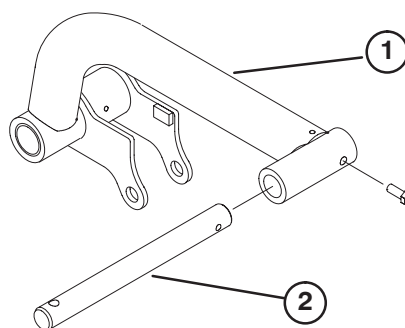

Figure 9
- Insert a pivot rod into each (R.H. & L.H.) lift arm and align mounting holes (Fig. 9).